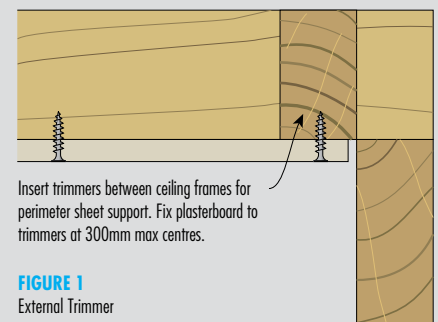

FIGURE 1
- Provide additional framing around the perimeter by inserting trimmers between ceiling frames or install steel angle. [Refer to Figures 1 and 2]